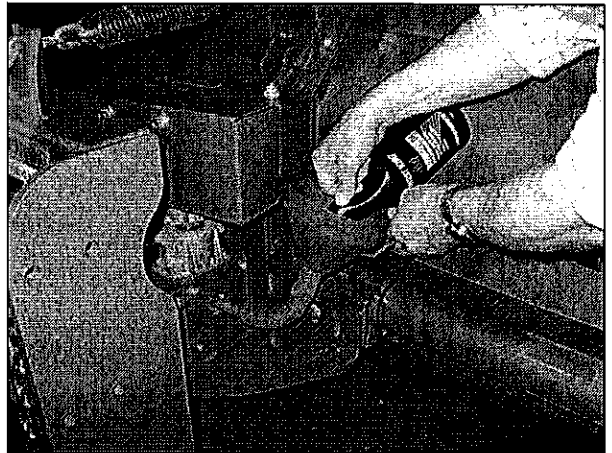

Figure 37
2. Using a funnel with a flexible spout, pour multipurpose 90-weight gear lubricant into the side hole until it starts to run out. (Figure 37)